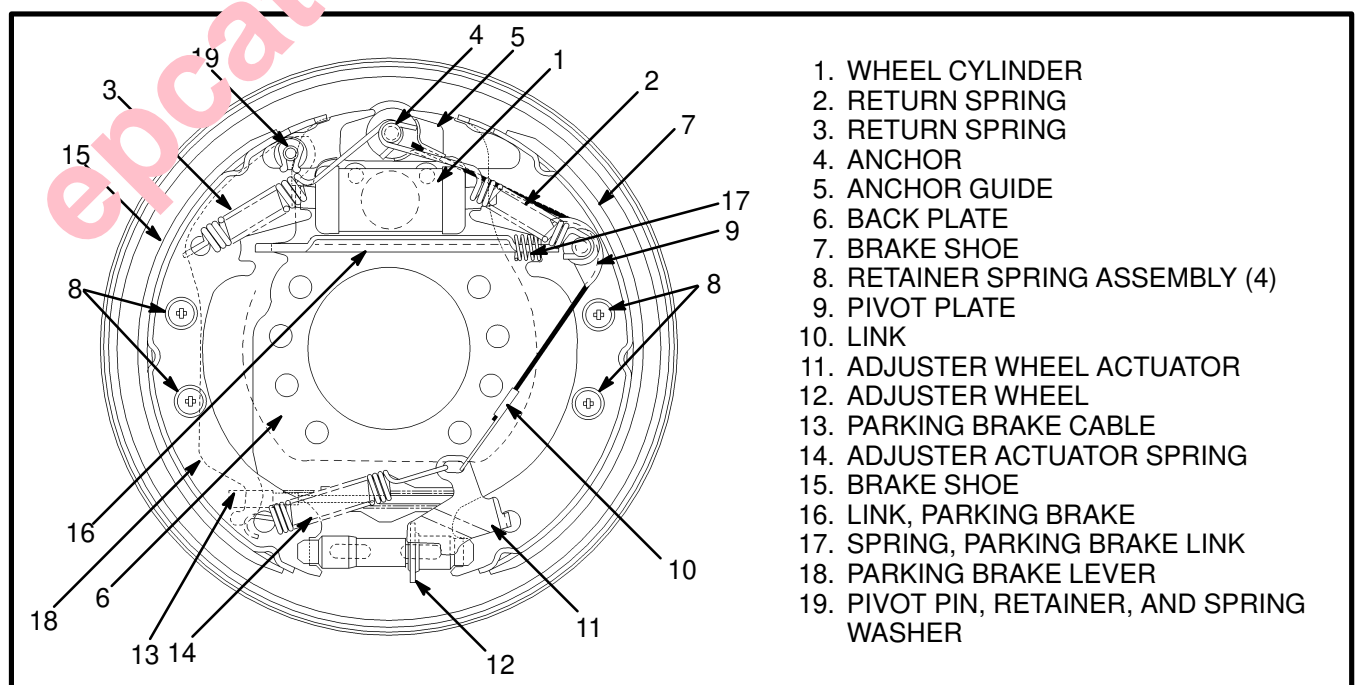
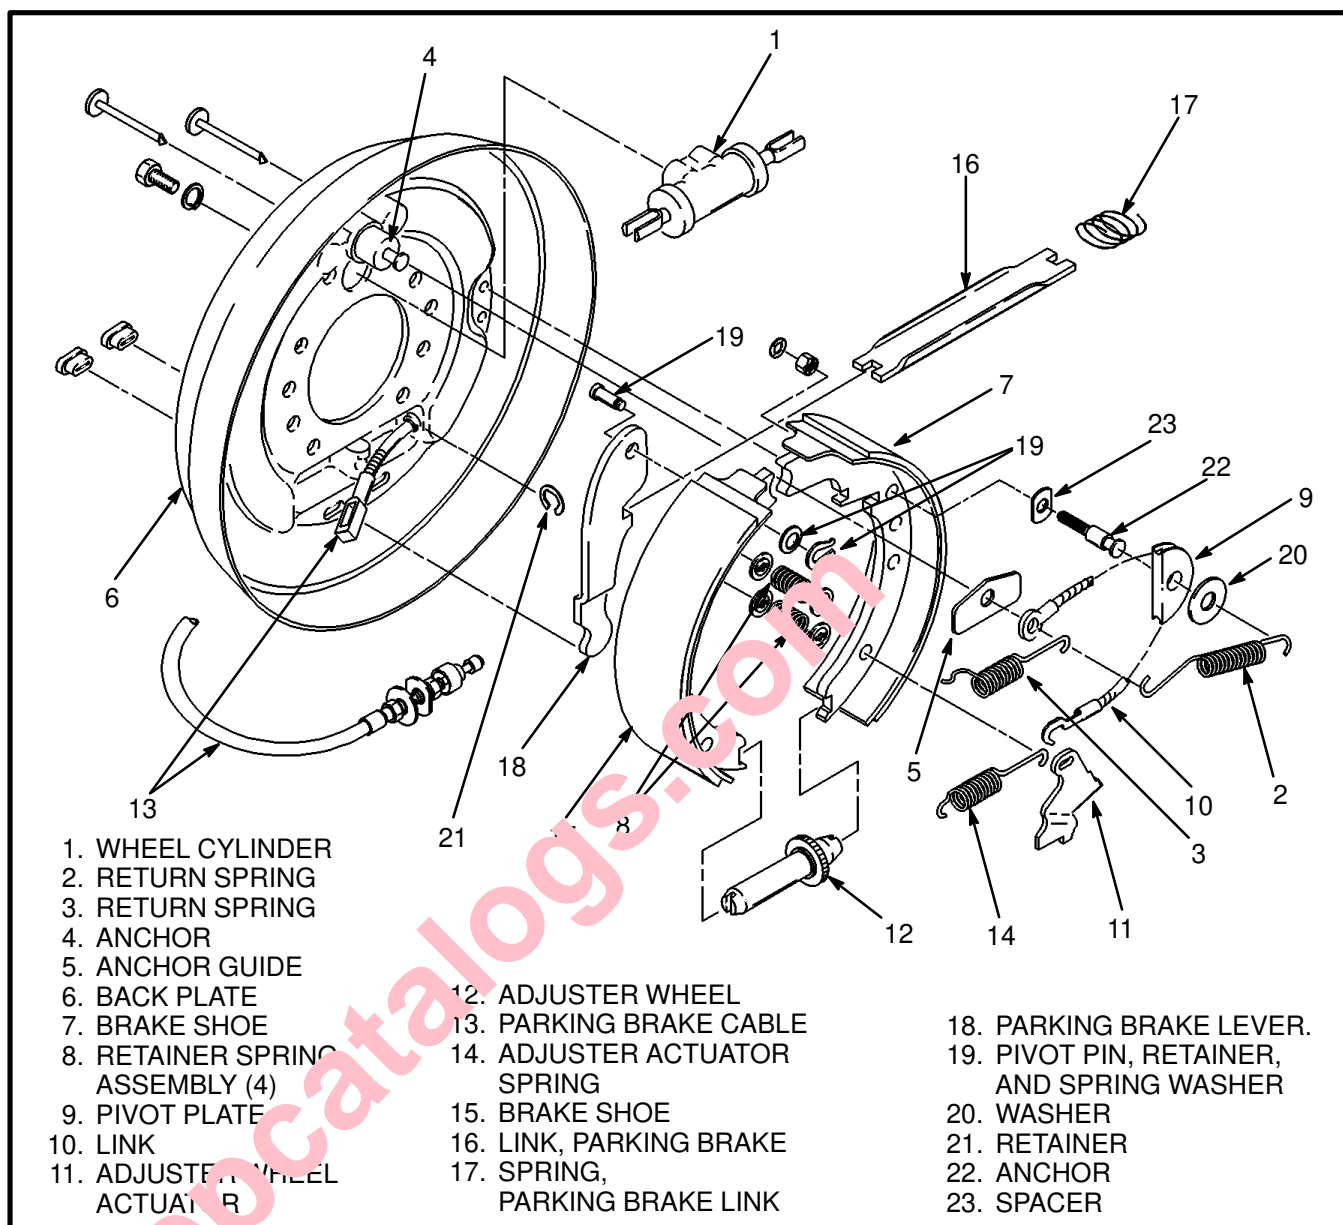

FIGURE 3. BRAKE ASSEMBLY (LEFT BRAKE ASSEMBLY SHOWN)
FIGURE 4. PARTS OF THE SERVICE BRAKE
A service brake assembly is installed on the mounts at each end of the drive axle. The parts of the service brake assembly are shown in FIGURE 3. and FIGURE 4. When the brake pedal is pushed, fluid pressure from the master cylinder causes the pistons in the wheel cylinder to extend. The pistons expand the brake shoes against the drums.
6. Make a note of the arrangement of the parts. See FIGURE 3. and FIGURE 4. Remove the return springs (2) and (3) with spring pliers.
7. Remove the retainers, springs, and anchor pins (8) that hold the brake shoes to the back plate.
8. Disengage the link (10) from the adjuster wheel actuator (11). Remove the link (10), washer (20), and the pivot plate (9). Remove the anchor guide (5).
9. Move the brake shoes away from each other to disengage the brake shoes from the wheel cylinder. Disconnect the parking brake lever (18) from the parking brake cable (13) as the brake assembly is removed from the back plate. The parking brake lever has a hook that engages the parking brake cable.